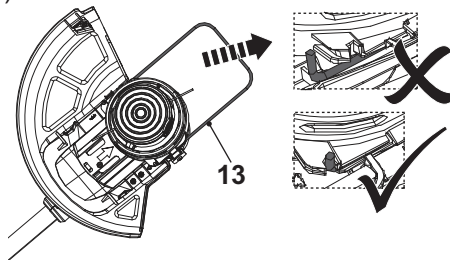

Fig. 12, trimming / edging position
1. Pull the plant protector (13) out until it locks in place for trimming / edging operation (Fig. 12).